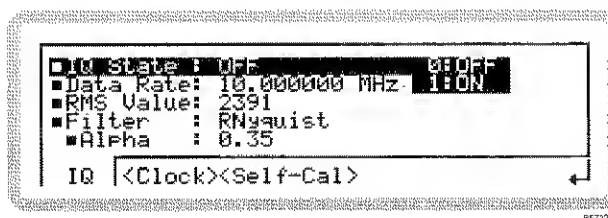

Fig. 3-66 External IQ, digital
- 2 Press **SIG GEN** to show the main screen, and touch the **IQ** soft box to select the function. Touch **IQ...** and press **↗** to view the external digital IQ modulation menu (Fig. 3-66).